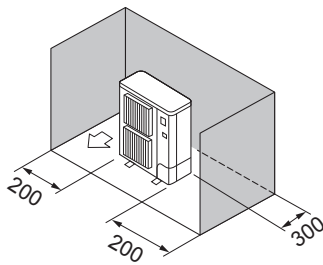

Fig. 5-5
- ③ Obstacles at rear and sides only (Fig. 5-5)